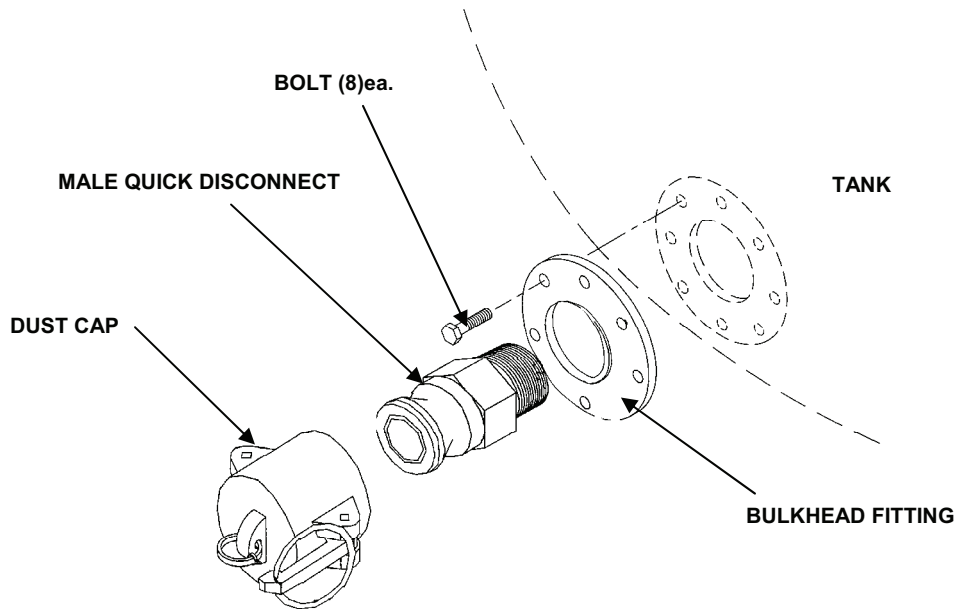

Figure 2. Settling and Product Tank Discharge Fitting.
3. Remove eight (8) bolts and remove the bulkhead fitting from the tank if necessary. See Figure 2.
1. Install the bulkhead fitting and secure with bolts. See Figure 2.